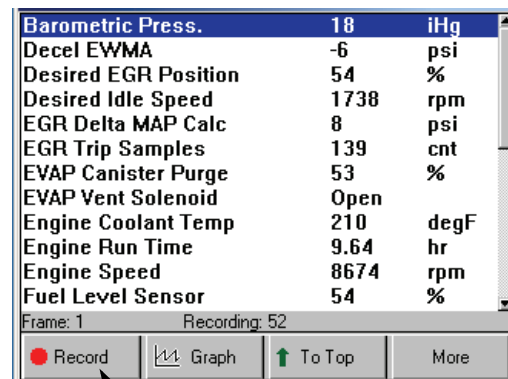

Figure 7.3: Record Function
- 3 Press the **Record** function key (Figure 7.3 on page 40). This does the following: